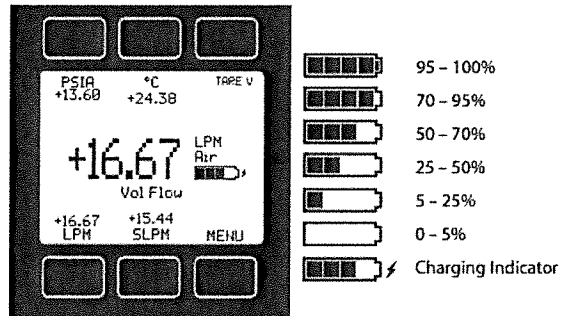

Figure 4. Battery Indicator
3.3.2 The battery indicator on the right side of the main display reflects the relative battery level (Figure 4). When the battery indicator is completely empty, approximately 15 minutes of battery life remains. Please charge the flow meter as soon as possible to maintain full device performance.